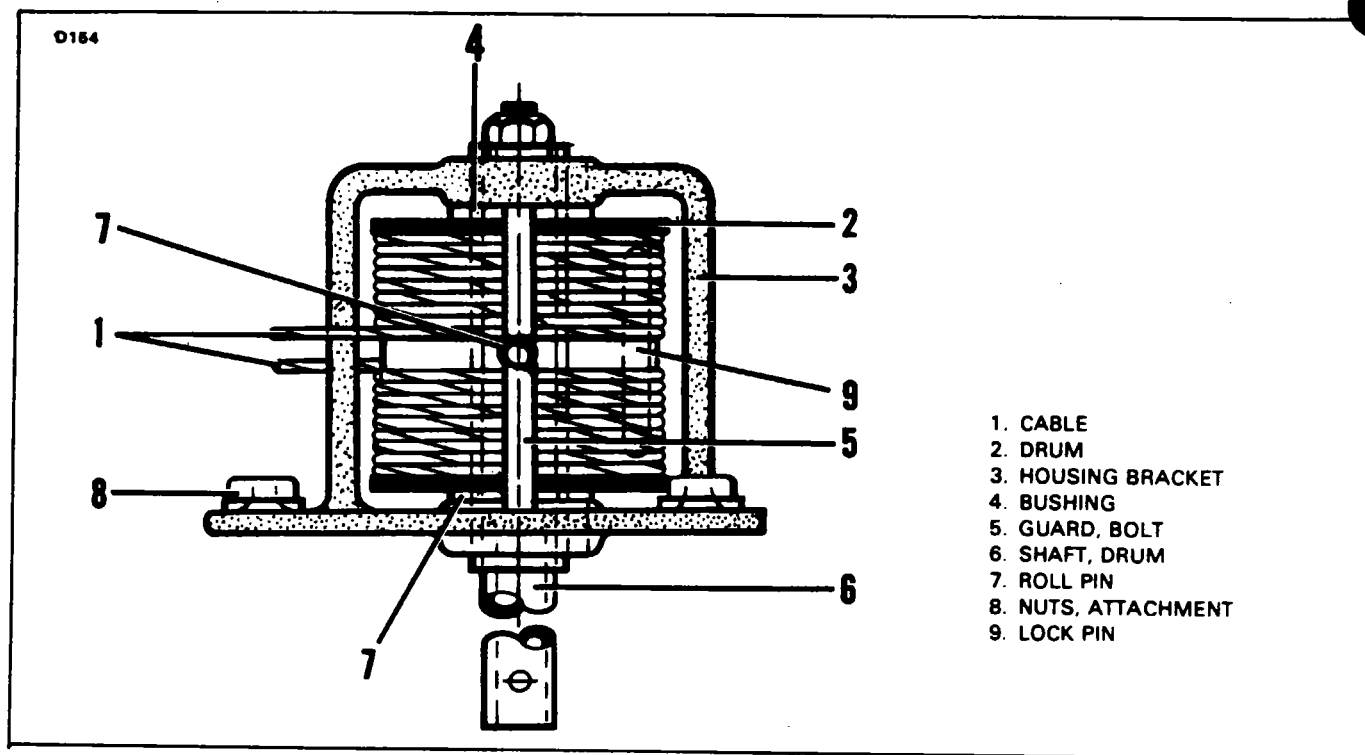

Figure 27-17a. Wrapping Rudder Trim Drum (Control Pedestal)
8. Insert the drum in the housing bracket, position the drum and route the cables from the assembly as shown in Figure 27-17a.